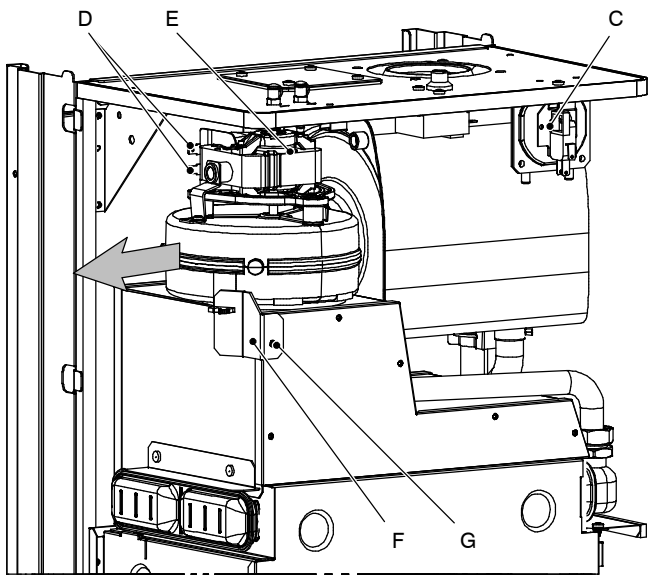

Fig. 71
- 4 Unscrew the screw *F* and remove the bracket *G* (Fig. 71).
- 5 Remove the Fan by sliding it towards left (se the arrow in Fig. 71).